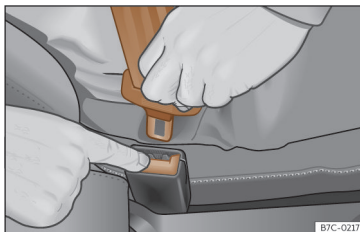

Fig. 21 Release the seat belt's latch plate.
Only unfasten the seat belt when the vehicle has come to a standstill >>> **Fig. 21.**
- Press the red button on the buckle >>> **Fig. 21.** The latch plate is released from the buckle.